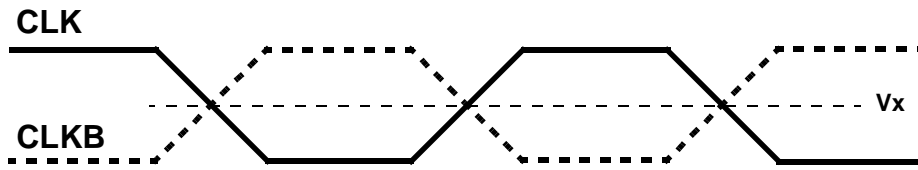

Figure 1. Direct Rambus Crossing Point Voltage
5. Differential output crossing point voltages shown in Figure 1.